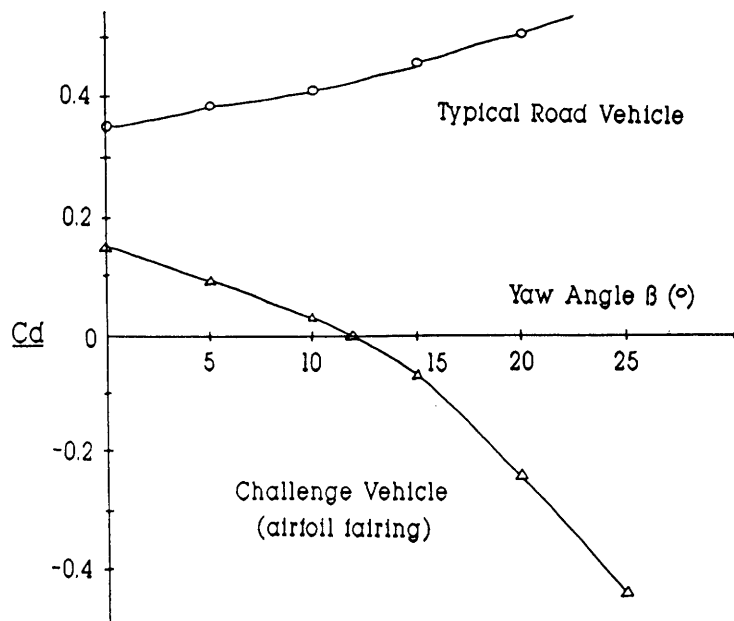

Figure 2  $C_d$  vs. yaw angle  $\beta$  for vehicles
-enough wind it will become negative and begin to act as a sail by generating thrust (figure 2). The bottom curve in this figure is for a high-fuel-economy vehicle "Canadian Challenge" (world
With a maximum legal crosswind of 6 kmh at 90 degrees to the direction of vehicle travel, a yaw angle  $\beta$  of 3.5 degrees is generated. With an optimized shape as shown in figure 2, the effective  $C_d$  at this yaw angle becomes approximately 0.10 or a reduction 33% from that with no-wind conditions.